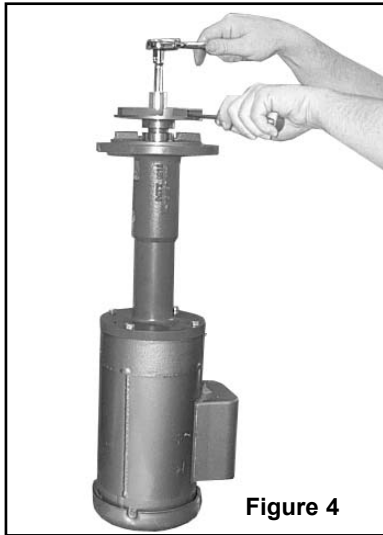

Figure 4
4. Loosen (2) nuts holding mounting plate to adapter.
5. Remove (4) bolts holding plate to tank.
8. Insert a screwdriver in one of the impeller waterway passages and back off the impeller nut as shown in Figure 4.
6. Insert a screwdriver in a waterway passage of the impeller holding it against rotation and tighten retaining assembly as described in paragraph 8 of disassembly instructions. See Figure 4.
12. Tighten (2) bolts evenly to 50 ft. lbs. maximum torque. Over tightening will cause adapter to crack.
13. Install pump to cabinet or tank with (4) bolts.